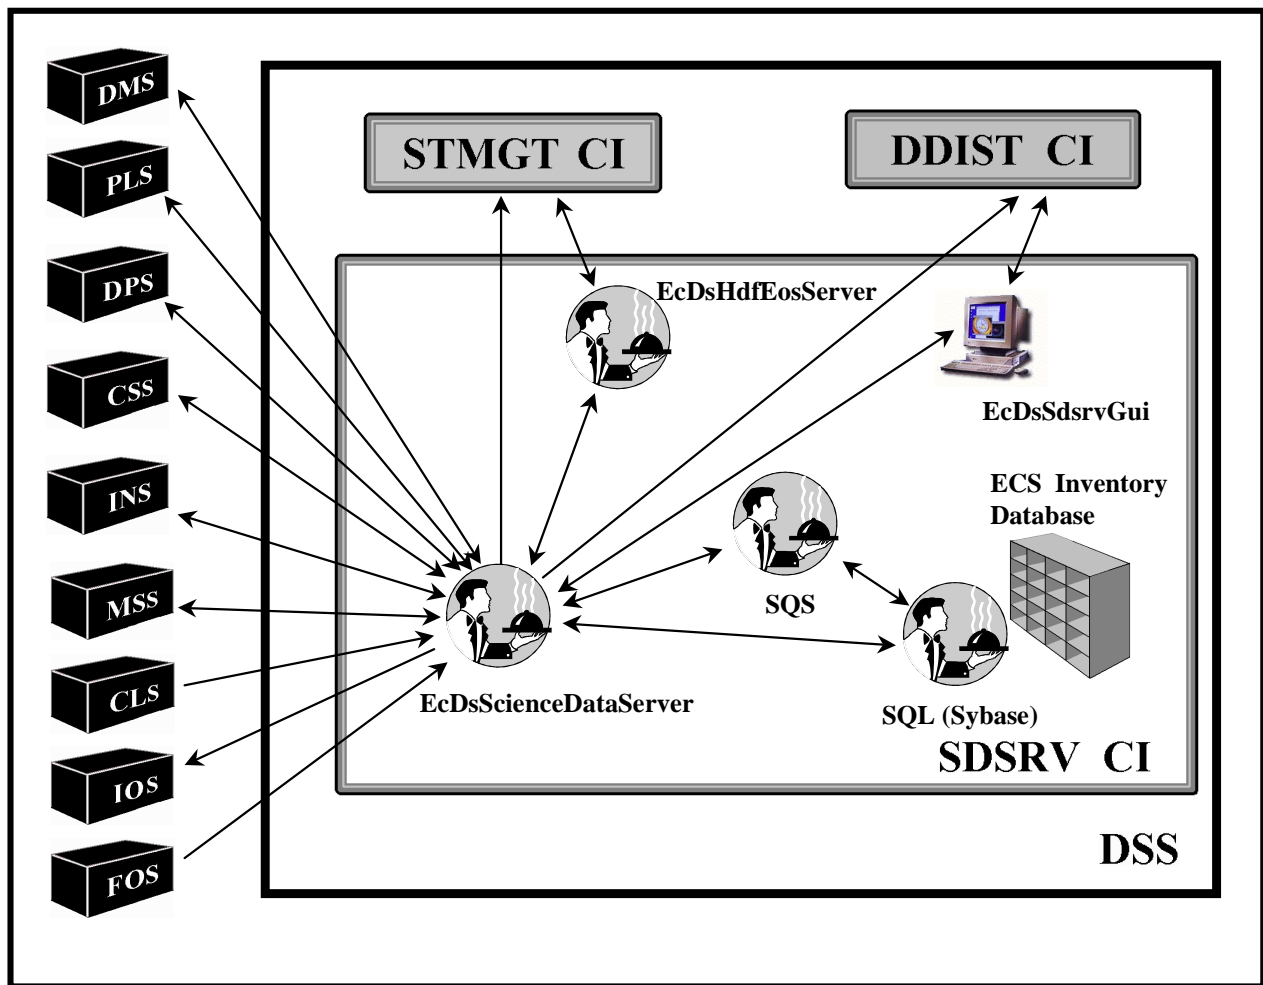

Figure 4. Science Data Server (SDSRV) CSCI Architecture
- Science Data Server (Figure 4) is the part of the DSS that manages and provides user access to collections of non-document Earth Science data.